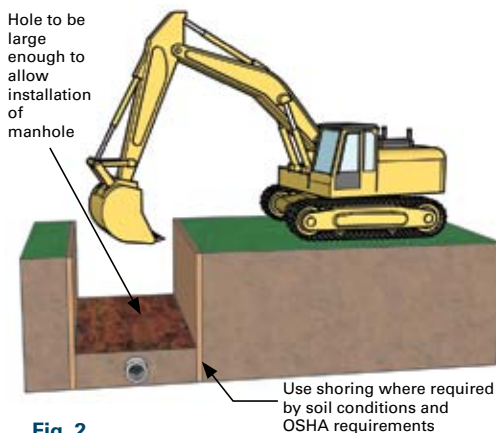

Fig. 2
Step 2: Excavate the soil above the pipe. Use shoring to protect the soil from collapsing according to safety regulations. (See Fig. 2)